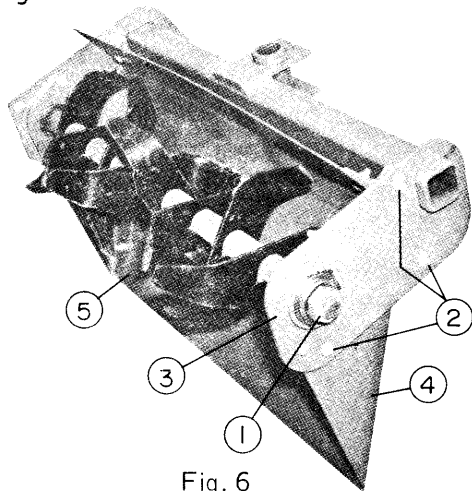

Fig. 6
1. Remove the nut from the tine shaft weldment. See fig. 6.
2. Remove the three nuts and bolts securing the support plate to the side shield and dirt shield and remove the support plate. See fig. 6.